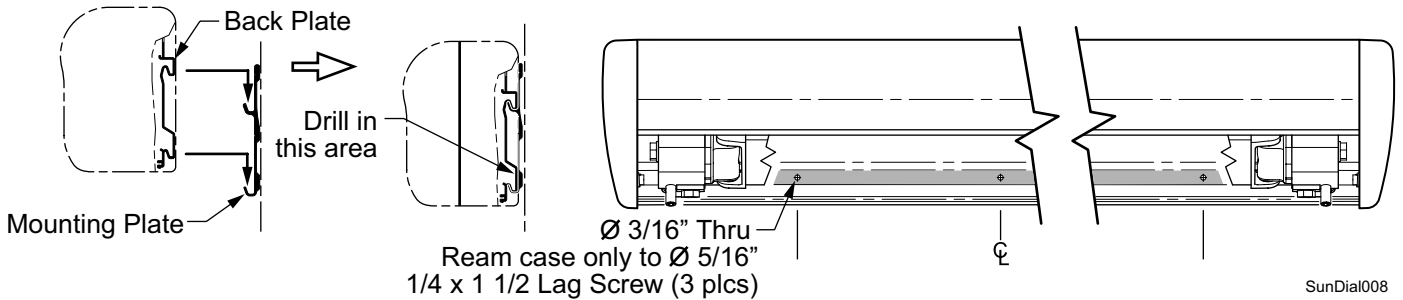

Figure 7. Mounting the Awning.
2. Drill three (3) 3/16" holes through the case, mounting plate and into wall (do not go through interior surfaces of wall) in the approximate areas shown in Figure 7.
4. Attach the awning case to the mounting plate and wall using three (3) 1/4 x 1 1/2 lag screws.